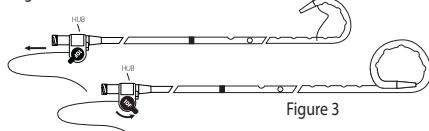

Figure 3
9. Pull the suture until desired pigtail is formed. Do not overly tighten the pigtail as over tightening may damage the catheter. Rotate the suture locking mechanism distally to hold the suture in place. See Figure 3.